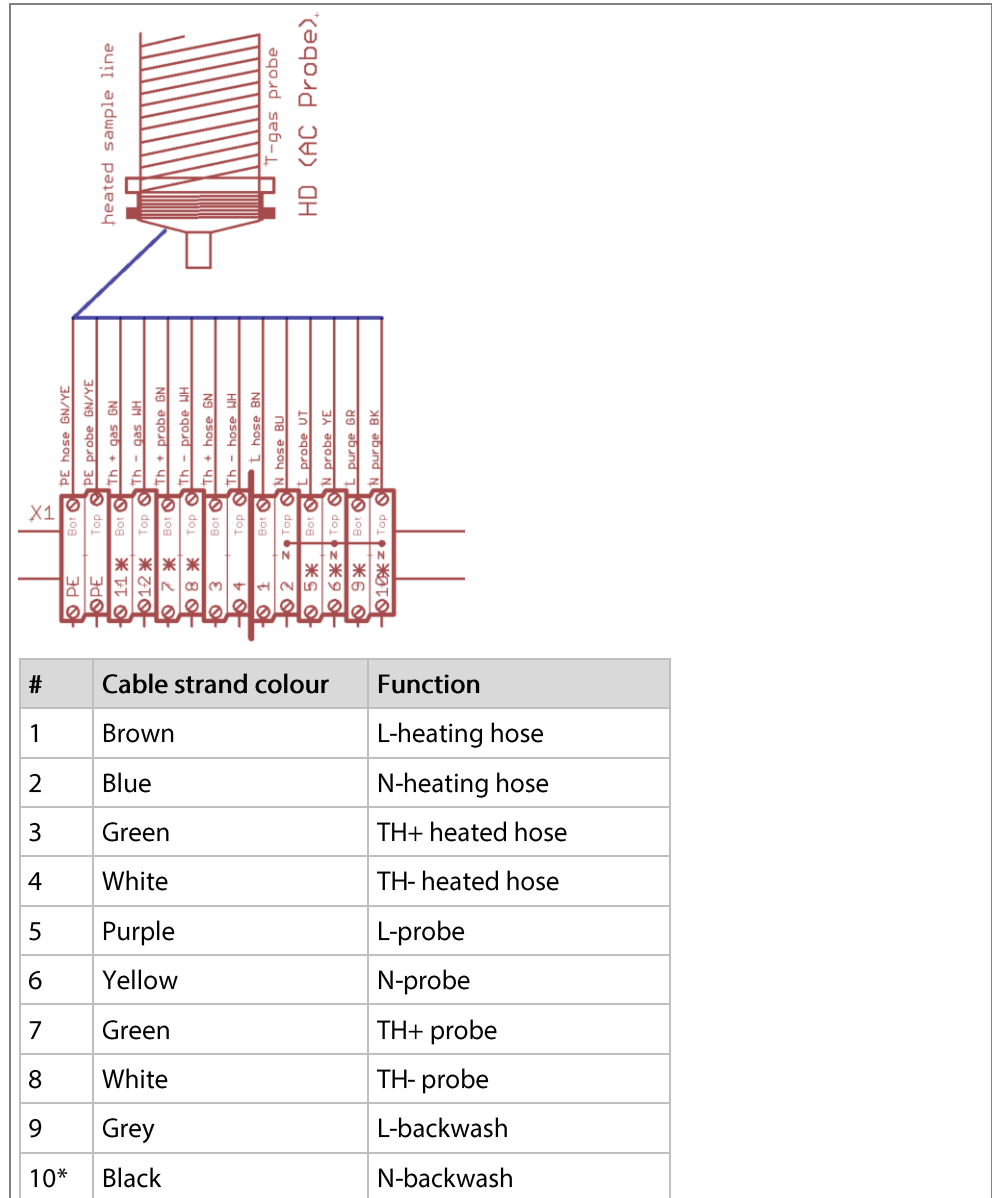

Fig. 3
▶ Wire the wiring harness to the X1 terminal Fig. 3).
- ▶ Connect the PTFE hose to the gas inlet (Fig.3).